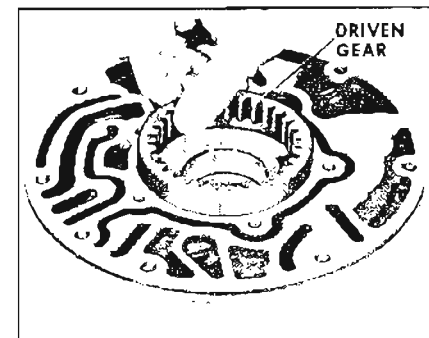

Figure 5-188
7. Remove oil pump driven gear. See Figure 5-188.